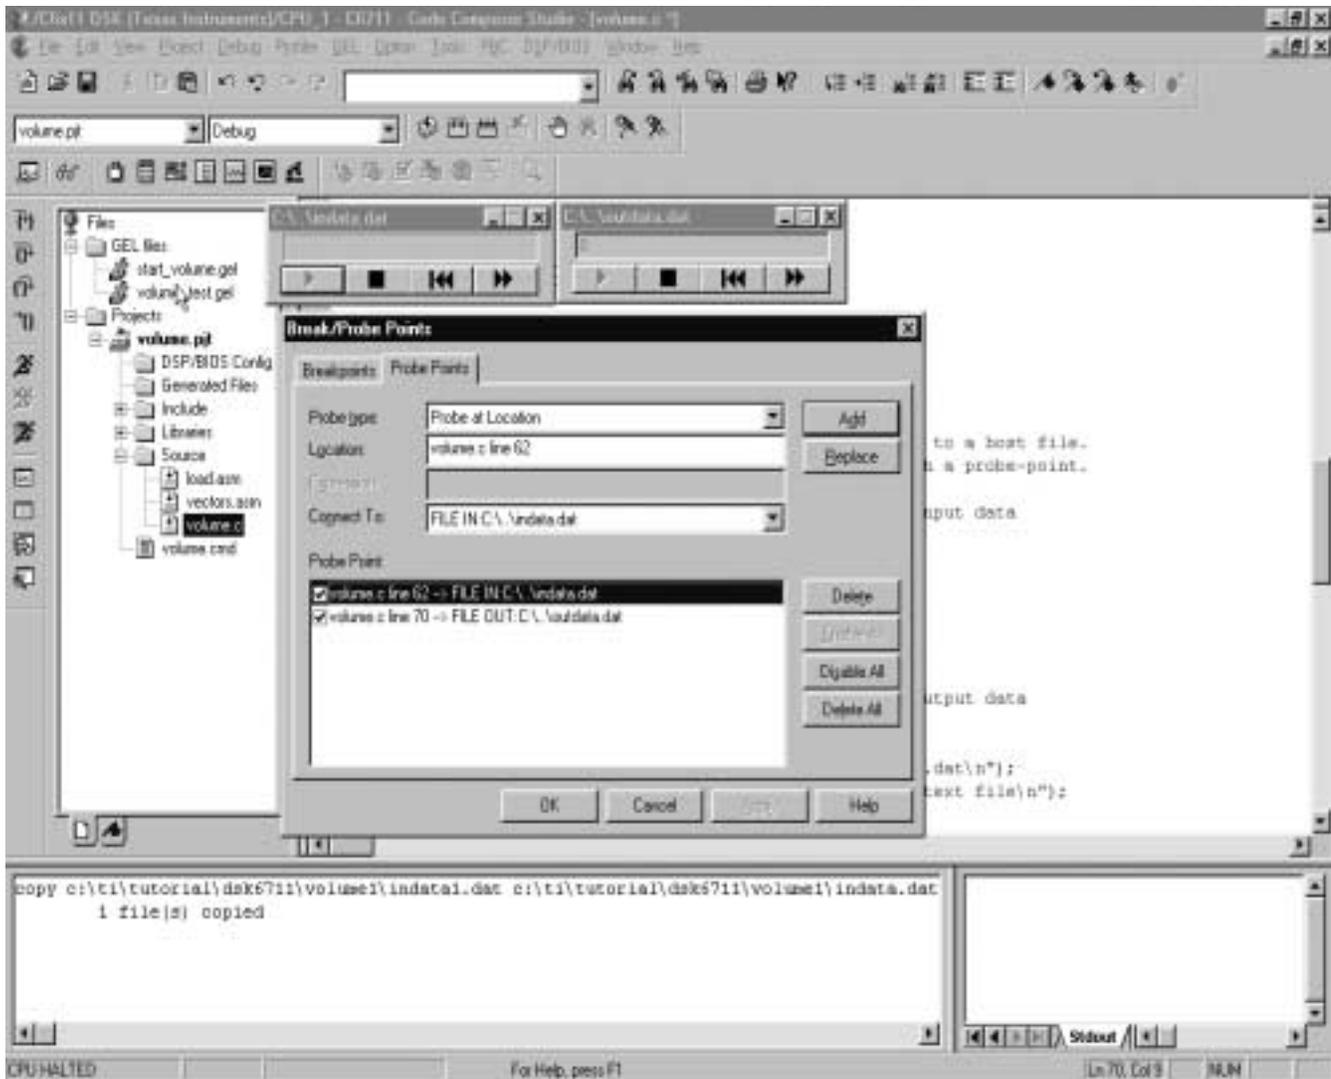

Figure 3. Probe Point Setup Workspace
9. Go to Debug ⇒ Probe Points. Your screen should look similar to Figure 3.